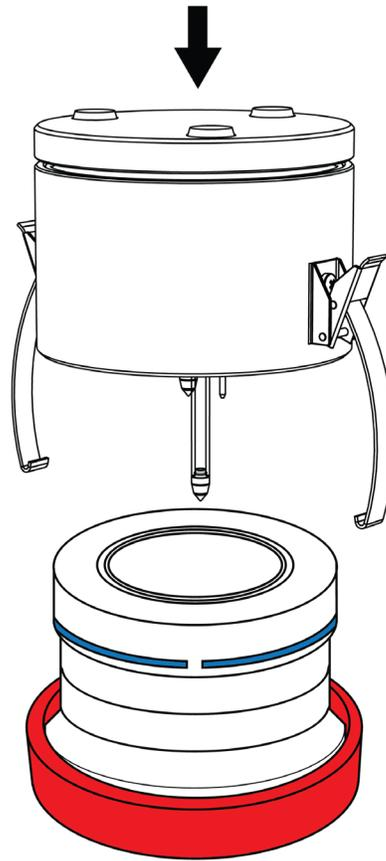

Figure 18 Place HYPROP on top of soil sample
4. After creating holes for the HYPROP tensiometer shafts, place the refilled HYPROP on top of the soil sample (Figure 18).
6. Remove the red gasket and close the HYPROP clips (Figure 18).